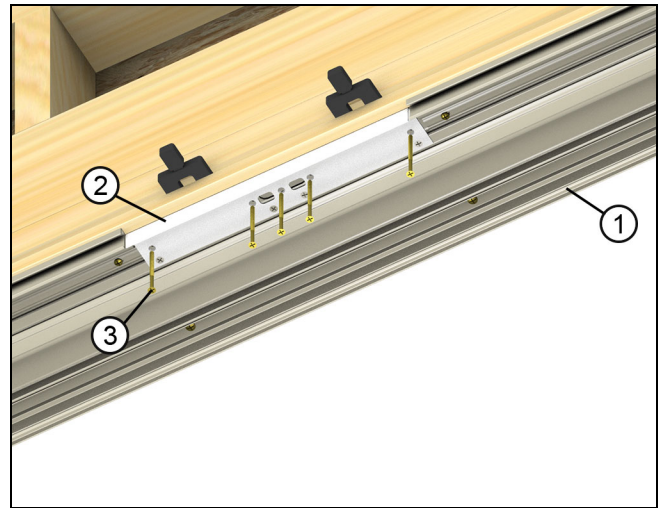

Figure 6
3. OXXO Configurations Only: Shim above head jamb strike plate and fasten to rough opening using five #8 x 2 1/2" flathead screws through the empty holes in the head jamb strike plate. Check the head jamb to be sure it is not bowed up or down. See Figure 6.